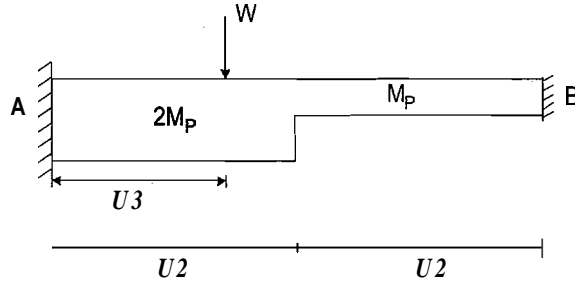

Fig. 9
- b) Determine collapse load in the fixed beam as shown in fig. 9 in which plastic moment capacity is $2M_p$ in one half and M_p in the other half. 14